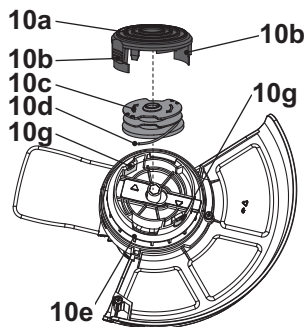

Fig. 17
3. Remove the trimming spool (10c) from the housing (10e) (Fig. 17).